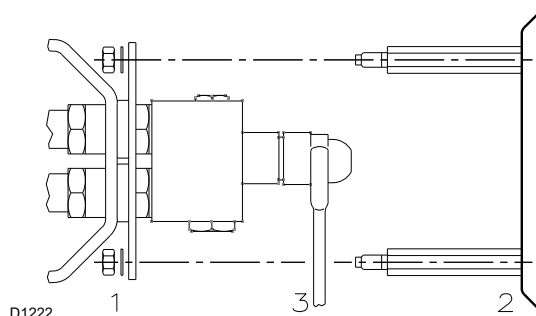

Fig. 17
- Remove the nuts 1)(Fig. 17) and the disk 2).
- Use wrench 3)(Fig. 17) to change the nozzles.